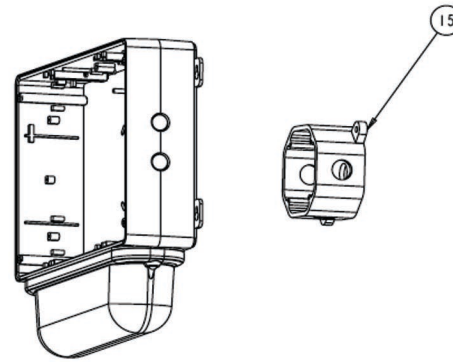

FIG 3.
- Remove appropriate knock-outs on back plate for installation on junction box (see figure 3).